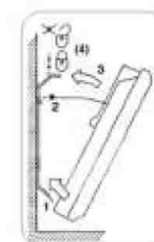

Fig. 6
slots, available in the lower part of the unit's rear panel. Carrying out these actions, it is necessary to hold the unit at the angle of ~50-60 degrees (Fig. 6).
8. Turn the unit in a horizontal plain until upper extensions of the bracket coincide with the upper slots in the unit's rear panel and slightly press on the unit until you hear clicking of the upper extensions (Fig. 6).